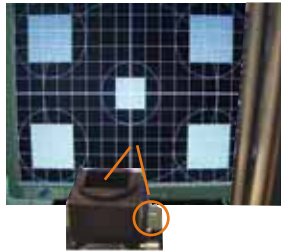

Fig. 2
- Set measuring/viewing selector to measuring position for reset analyzer .(zero calibration) as Fig.2